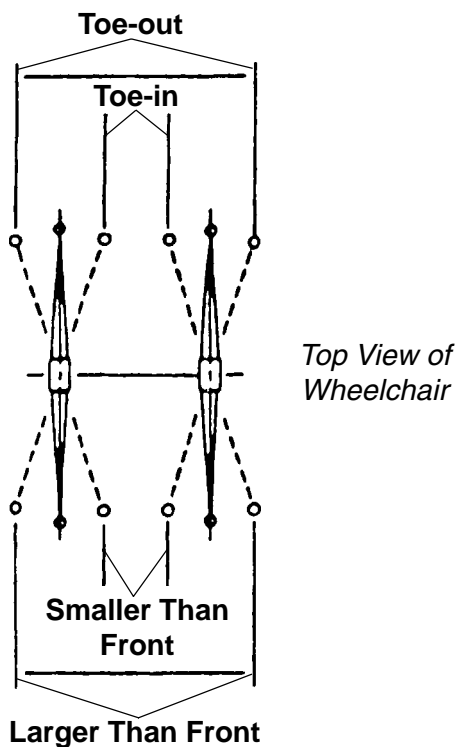

FIGURE 3 - DETERMINING/ADJUSTING TOE IN/TOE OUT
DETERMINING/ADJUSTING TOE IN/TOE OUT (FIGURE 3)
2. Measure the distance between the center lines at the rear and front of the rear wheels at approximately 12-inches from the ground/floor (FIGURE 3).
3. Determine the difference between the two (2) measurements. If the **difference** between the **two (2) measurements** is **GREATER** than **1/2-inch (0 ± 1/4-inch for maximum rollability)**, one (1) of two (2) conditions exists:
- a. If the **back centerline measurement** of the rear wheels is **SMALLER** than the **front centerline measurement** of the rear wheels, a **TOE-OUT** condition exists (FIGURE 3).
- b. If the **back centerline measurement** of the rear wheels is **LARGER** than the **front centerline measurement** of the rear wheels, a **TOE-IN** condition exists (FIGURE 3).